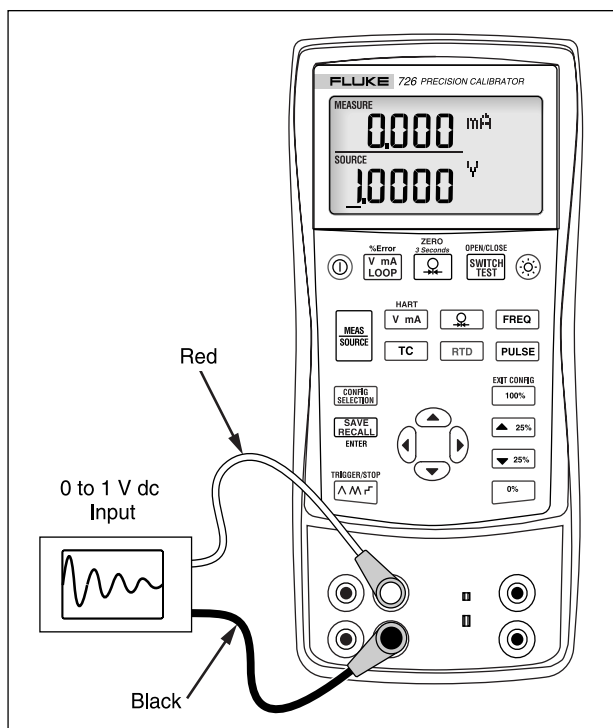

Figure 23. Calibrating a Chart Recorder
1. Connect the test leads to the instrument under test as shown in Figure 23.